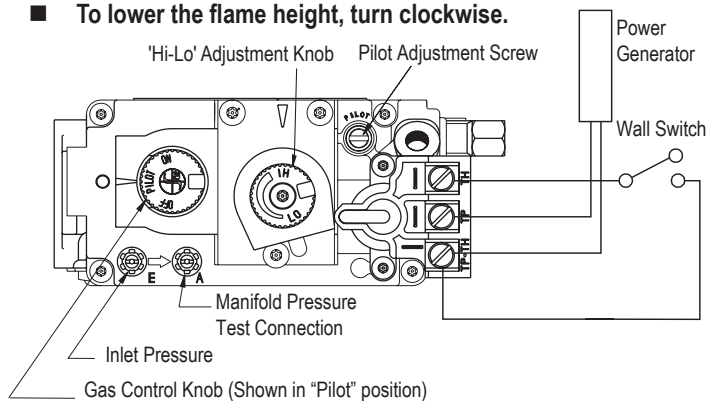

Figure 33. 'Hi-Lo' Adjustment on the SIT Nova 820 gas valve,
The H\*34DF\* is equipped with an adjustable burner, allowing you to raise or lower the flames. To adjust the flames, locate the black knob marked 'Hi-Lo', in the centre of the gas control valve (See Figure 33).
1. Locate Pilot Adjustment Screw. (See figure 33 or 34.)